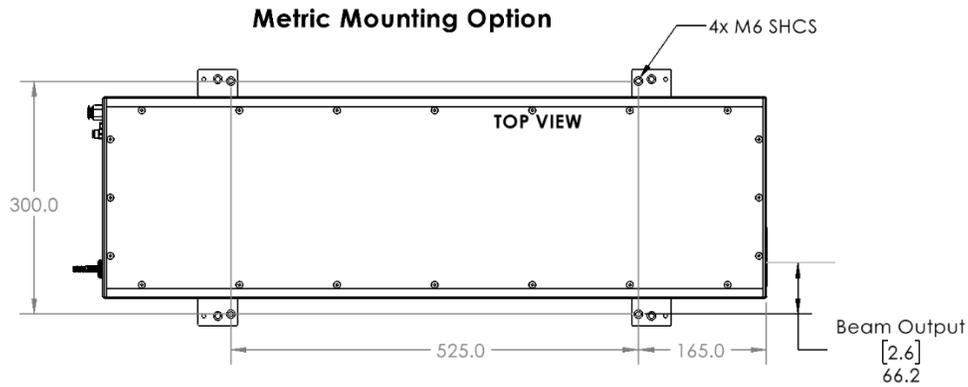

Figure 4.1-2 Top Mounting - Metric
- (2) top-mounted using the provided mounting feet using metric hardware, as in Figure 4.1-2